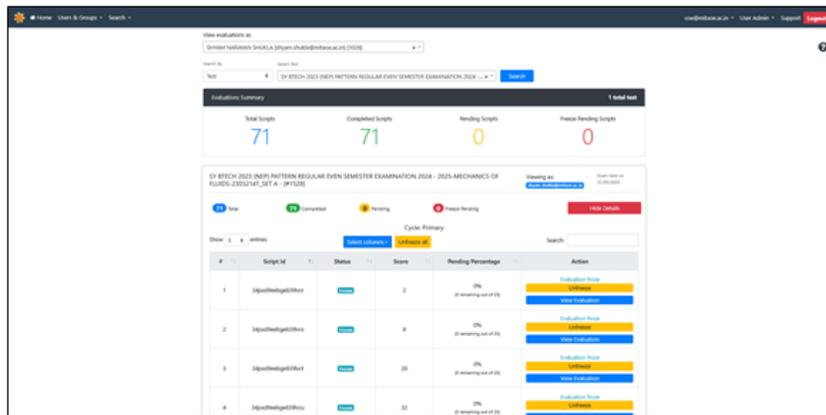

Fig 3.2b: Sample copy of ESE online evaluation.
- Post-examination, answer scripts are evaluated based on pre-defined rubrics, marking schemes, and step-wise solutions to enhance fairness and objectivity. (Refer Fig 3.2b for ESE online evaluation).